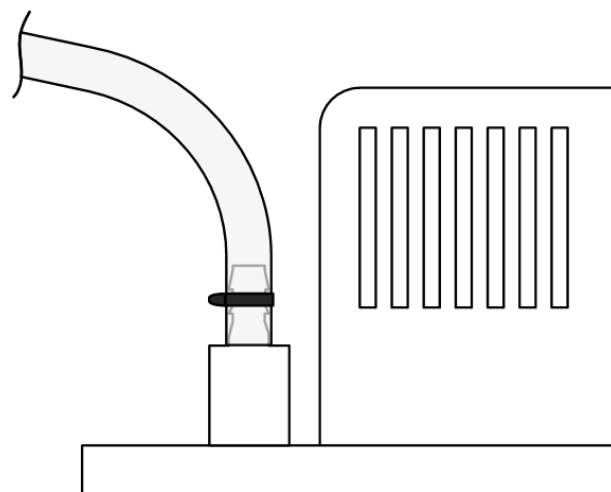

Figure 2: Position of cable tie / hose clamp
2. Open the required condensate supply (1).
3. Insert the condensate supply hose into the condensate supply (1).
4. Attach the condensate drain hose to the condensate drain with check valve (3) and ensure that it cannot slip by securing it with a cable tie / hose clamp (see Figures 2 and 3).